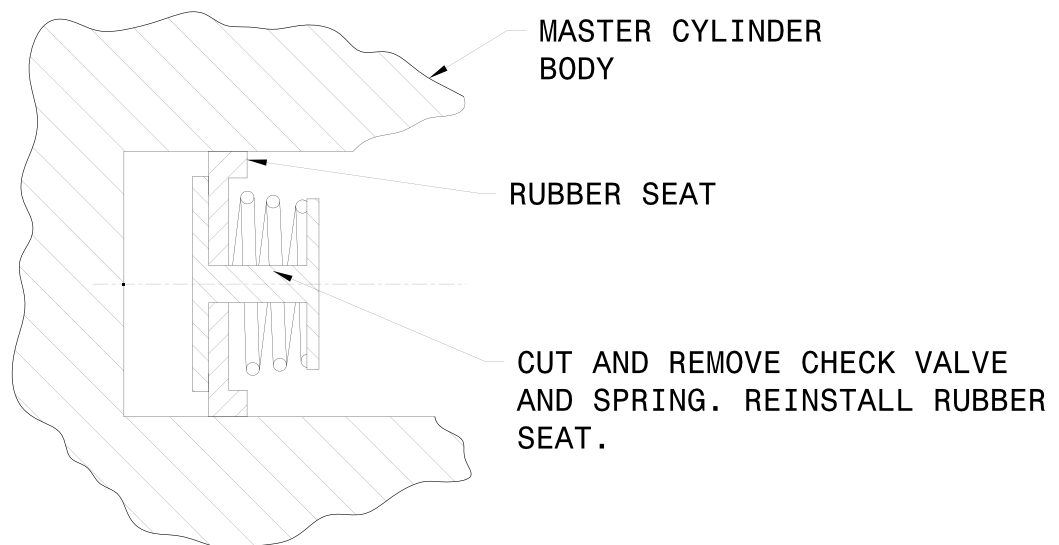

Figure 2 Check valve and spring subassembly modification
- 1 Refer to Figure 2. The check valve and spring subassembly in the bottom (pressure) end of the master cylinder must be removed. The rubber seat must be retained to maintain the proper piston-to-body relationship. This will eliminate possible retention of brake pressure upon release of brake application.